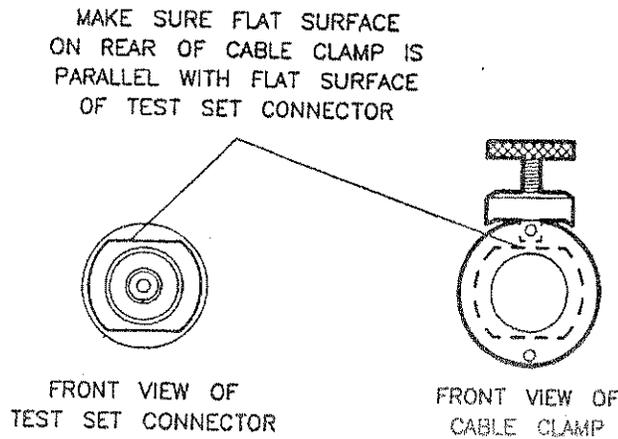

Figure 3-5. Visually Aligning Clamp (Nut Flats)
3. See Figure 3-5. Turn the clamp so that the thumbscrew is pointing up. From there, turn the clamp to visually align the clamp flats with the flats on the test port connector nut. This will minimize rotating the connector in the next step.